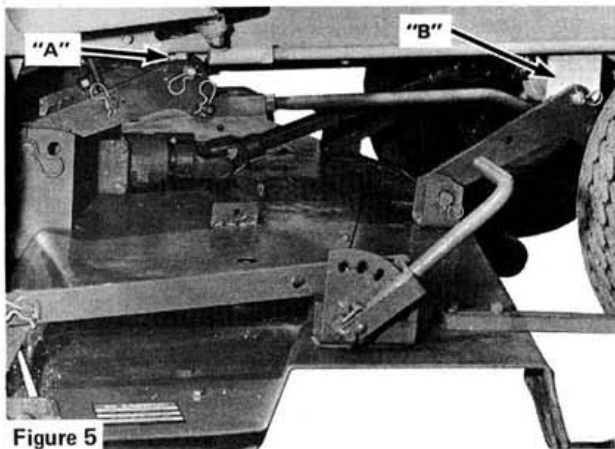

Figure 5
3. Pin mower rear hitch arms (through top hole) to the OUTSIDE of tractor rear hitch supports "A," figure 5, located just forward of the tractor hydraulic lift arms on the inside of main frame. Use clevis pins, flat washer and spring cotters, inserting clevis pins from outside in, flat washer to the inside between support and spring cotter.
4. Pin mower front hitch arms (through top hole) to the OUTSIDE of tractor front hitch supports "B," figure 5, located approximately six inches behind the front axle. Use clevis pins and spring cotters, inserting clevis pins from outside in.